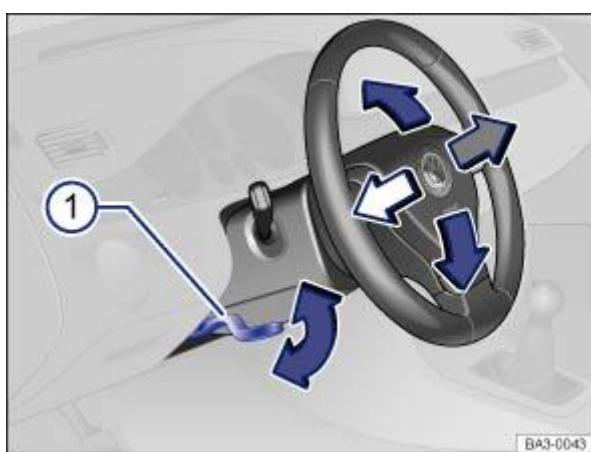

Fig. 67 Below the steering wheel in the steering column trim: lever for mechanical adjustment of the steering wheel position.
Push down the lever ⇒ Fig. 67① .
After adjusting the steering column, always move lever ⇒ Fig. 67① up so that it engages securely. This prevents the steering column from moving spontaneously while the vehicle is in motion.